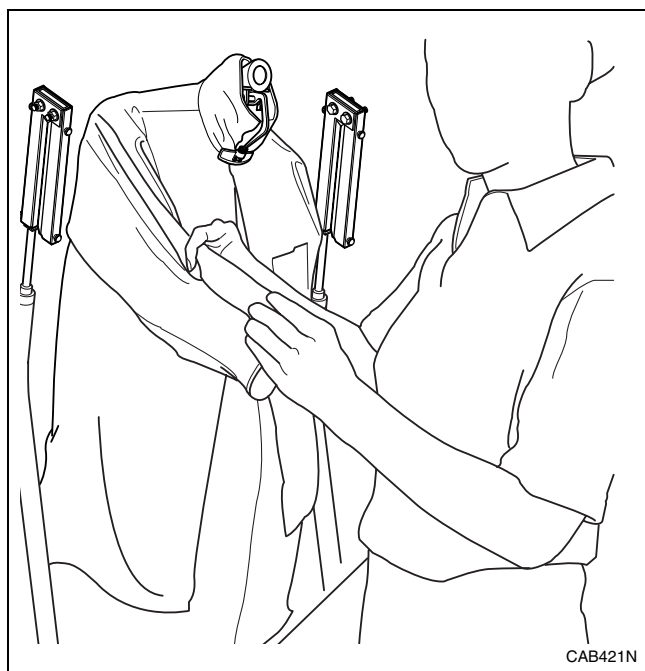

Figure 9
- Grasp one sleeve with gusset facing you. Overlap gusset of cuff as if you are going to button cuff so that air does not escape gusset. The sleeve end is now closed (do not button). Refer to *Figure 9*.